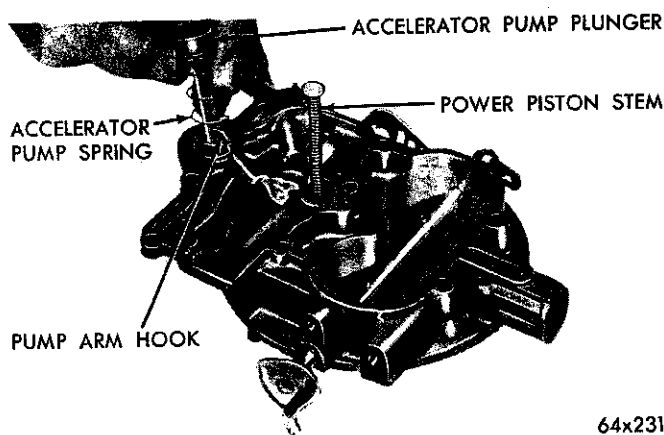

Fig. 4—Removing the Accelerator Pump Plunger
(9) Disengage the accelerator pump-plunger from the pump arm hook by tilting down and out from under hook, as shown in Figure 4. Remove the compression spring.